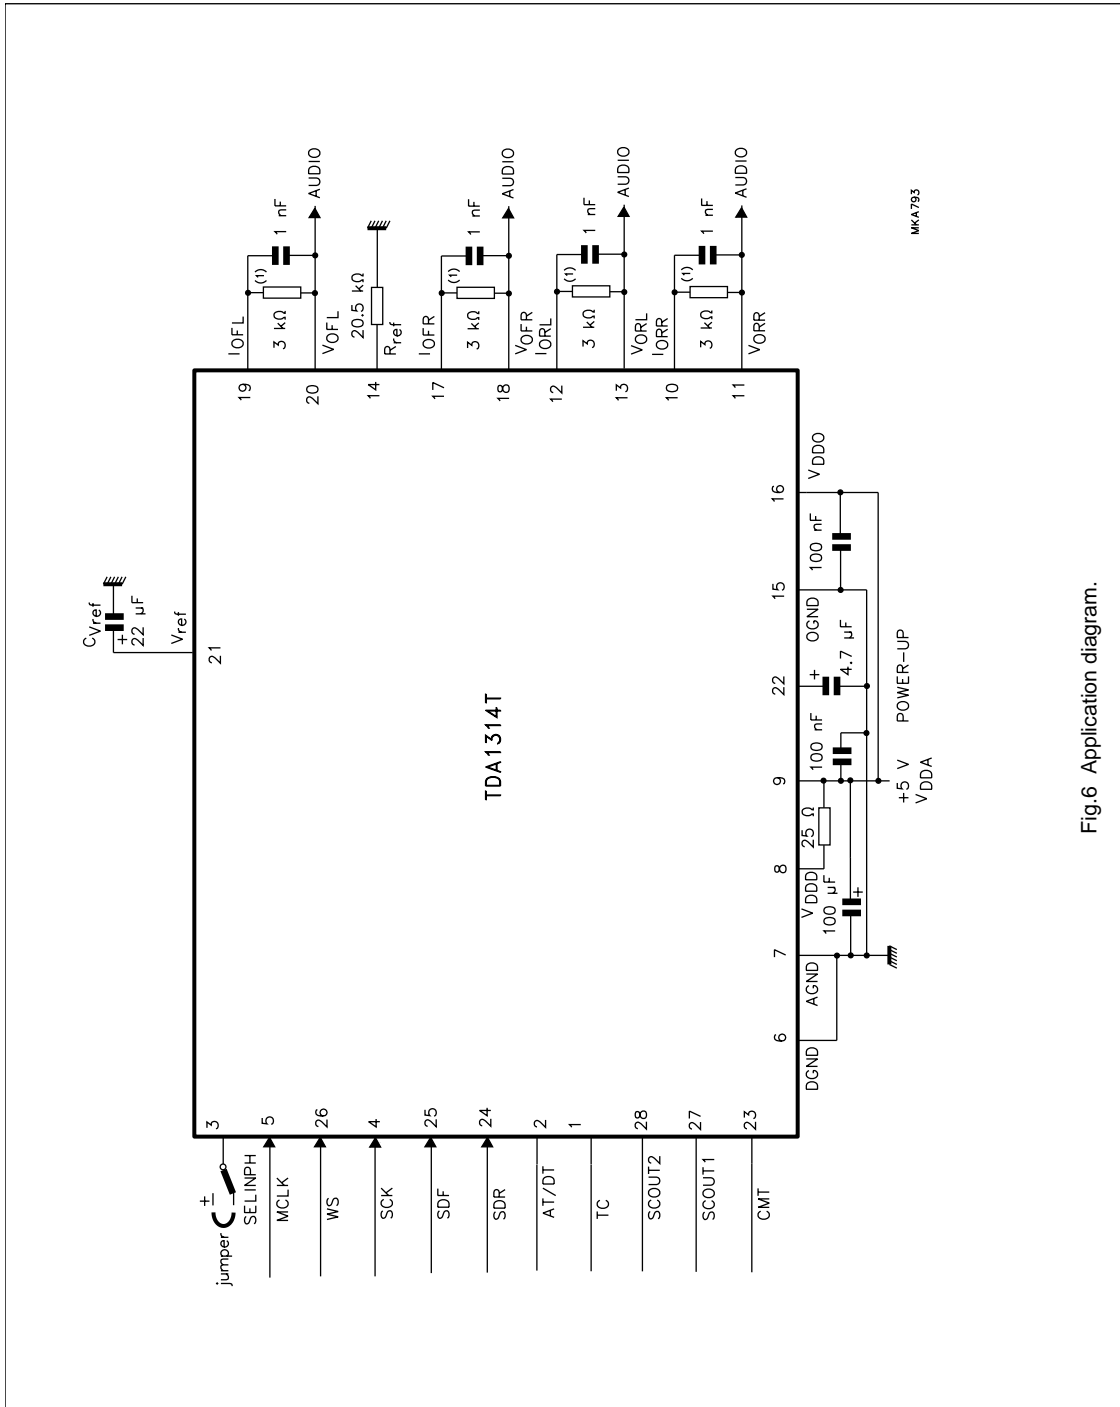

Fig.6 Application diagram.
$V_{DD} = 4.5$ to 5.5 V; $V_{DDA} = V_{DDO} = 4.75$ to 5.25 V; all voltage referenced to ground (pins 6, 7 and 15); measured in test circuit of Fig.6; $T_{amb} = 25$ °C; unless otherwise specified.
1. R_L is the AC impedance of the external circuitry connected to the audio outputs in the application diagram of Fig.6.
The application diagram is illustrated in Fig.6.
The output operational amplifiers are current-to-voltage converters by means of the 3 k Ω resistors connected between the DAC current outputs (pins 10, 12, 17 and 19) and the voltage outputs (pins 11, 13, 18 and 20) respectively. The voltage on the DAC current outputs is equal to the operational amplifiers virtual ground at V_{ref} in the event that the operational amplifier is used according to the application diagram of Fig.6.